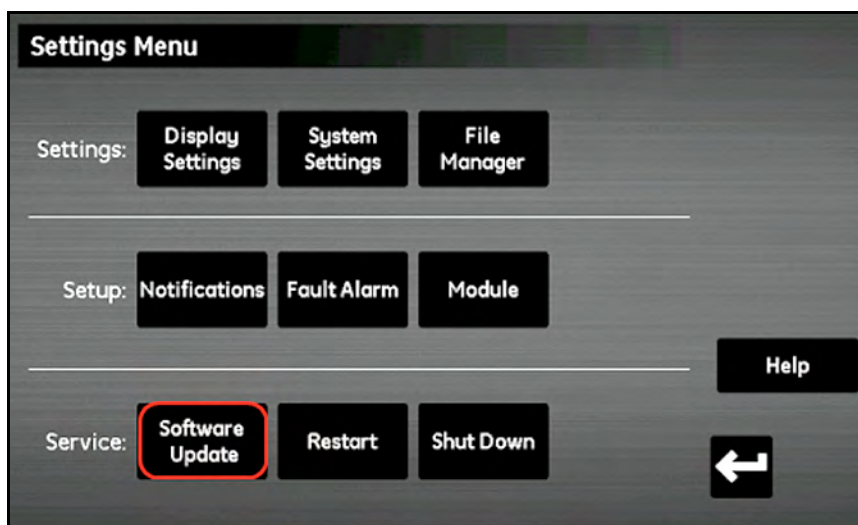

Figure 87: Software Update
- In the **Service** section (see *Figure 87* below), tap the **Software Update** button. If the **Software Update** button is grayed out, check to ensure that the USB flash drive is properly plugged into the USB port.